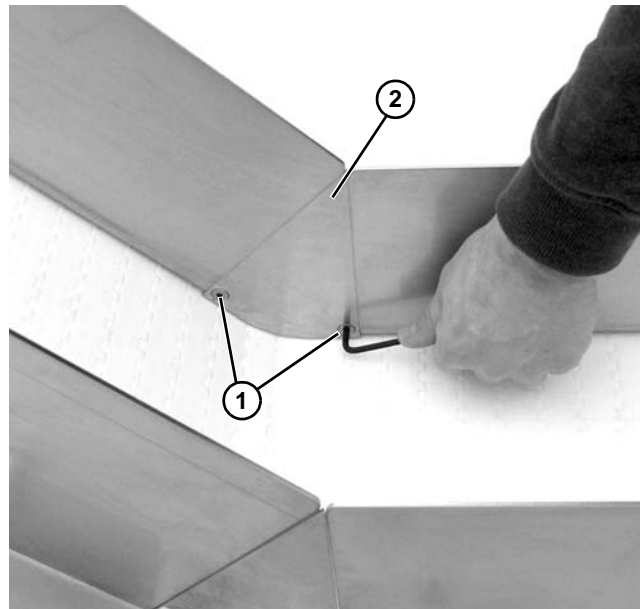

Figure 102
- Remove two socket head screws (Figure 102, item 1) and guide plate (Figure 102, item 2) (if applicable).